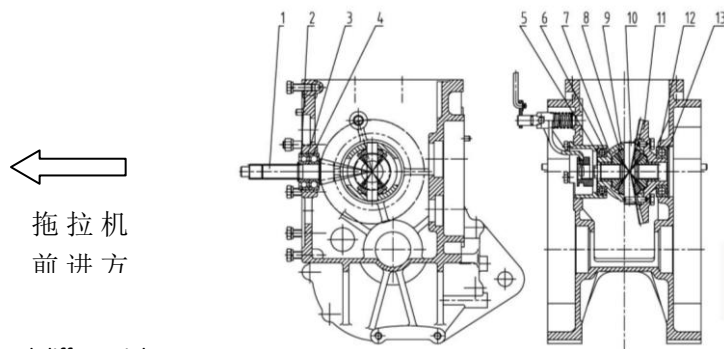

Figure 6-3 Central drive and differential
The two bearings (12) at both ends of the differential and the bearing on the driving conical gear shaft should have a certain pre-load during assembly in order to reduce the axial displacement of the central drive conical gear pair under working conditions and increase their supporting rigidity. But the original preload will gradually disappear due to the wear of the bearings after the tractor has been used for a period of time. There will be a gap between the two pairs of bearings. The bearings should be re-tensioned when the gap is greater than 0.1mm (see Figure 6-3).
When the pre-load of the bearing 6305N (3) of the driving conical gear needs to be readjusted during regularly maintenance (every three class of maintenance), loosen the lock washer and tighten the round nut to make the two conical bearings produce a certain amount of pre-load force, the torque to rotate the conical gear shaft (the frictional resistance torque of the bearing) is $(2.5 \sim 5) \text{ N}\cdot\text{m}$ and then lock the round nut with a lock washer (see Figure 6-3).
不正	减小第二轴的调整垫片1，使小弧齿锥齿轮后移（见图6-3）
正	增加第二轴的调整垫片1，使小弧齿锥齿轮前移（见图6-3）
常印痕	增加右侧面大弧齿锥齿轮的调整垫片5，左侧面减少数量相等的调整垫片，使大弧齿锥齿轮右移（见图6-3）
增加左侧面大弧齿锥齿轮的调整垫片5，右侧面减少数量相等的调整垫片，使大弧齿锥齿轮左移（见图6-3）